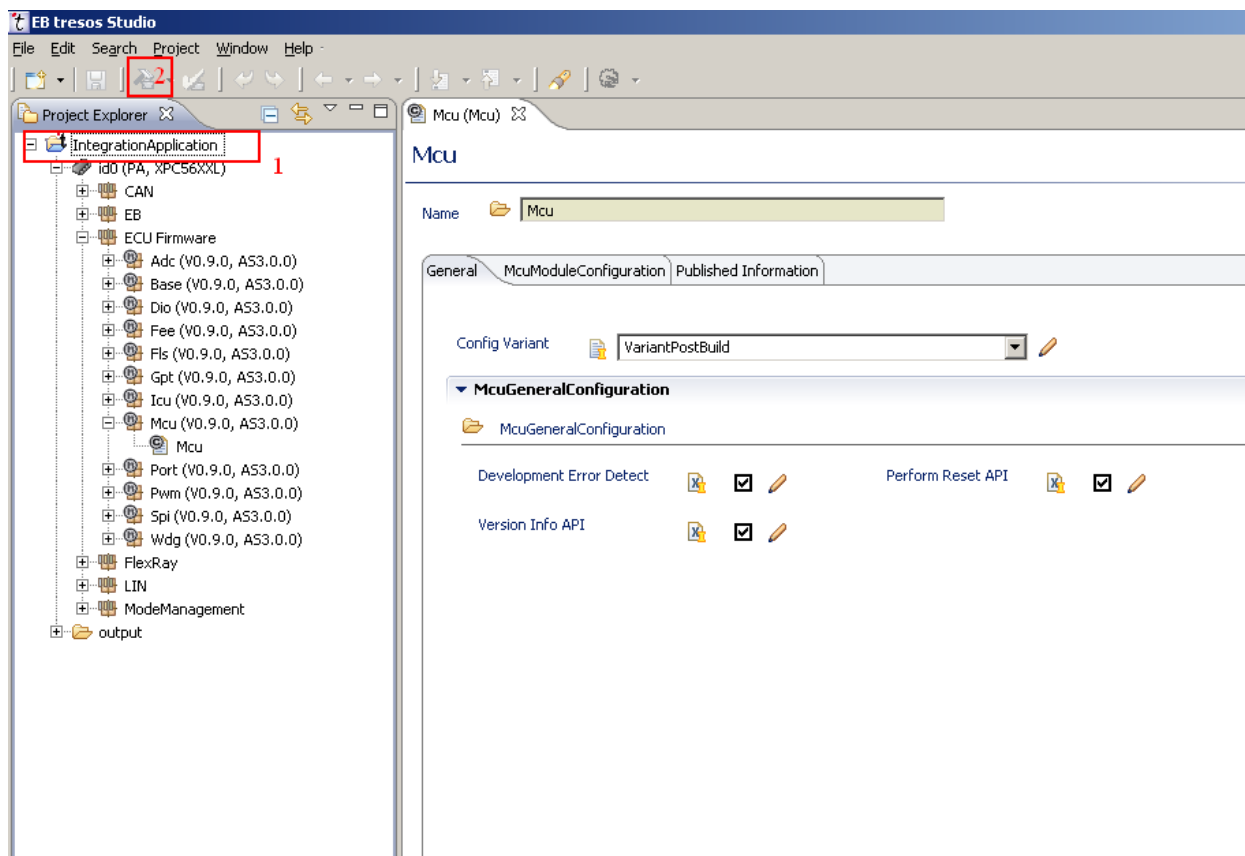

Figure 5-4. Configuration Generation
4. Select the *sample_app* project and click on “Generate” button to generate the configuration files as shown in Figure 5-4. Configuration Generation